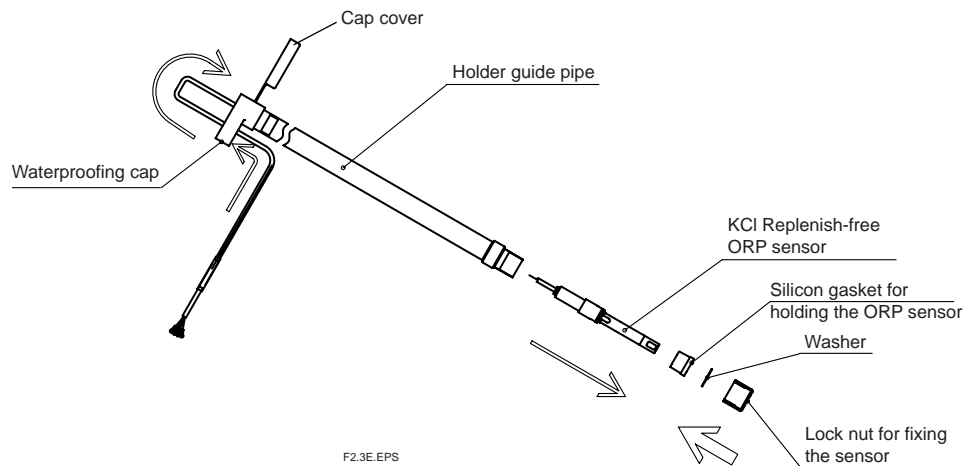

Fig. 2.3
- (1) Take the ORP sensor cap, which prevents the ORP sensor from drying out, off the tip of the sensor.
- (2) Mount the sensor in the immersion holder as the following procedures (See Fig.2.3 for details).
- Pass the sensor through the holder as the direction of the narrow white arrow in Fig. 2.3.
- Push out the sensor until it sticks out the other pipe side as shown in Fig. 2.3.
- Putting the removed washer between the gasket and the nut, tighten the nut so strongly so as to hold them in place. In Fig. 2.3, the wide white arrow indicates the insert direction of the gasket, washer, and nut.